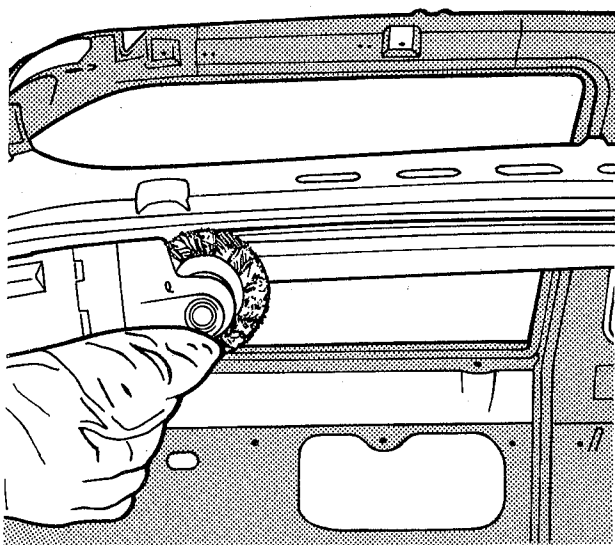

fig. 38
2. Lixar as abas de solda, sob as canaletas laterais (fig. 38)